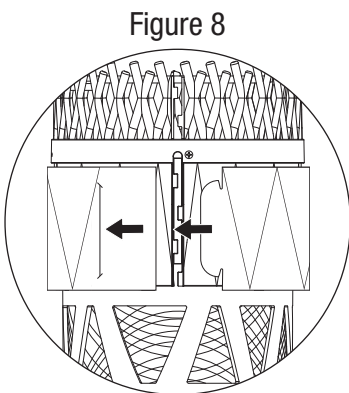

Figure 8
5. Attach fresh TacTrap and remove protective paper (Figure 8).
9. Attach fresh TacTrap and remove protective paper (Figure 8).
Attach fresh TacTrap and remove protective paper (Figure 8).